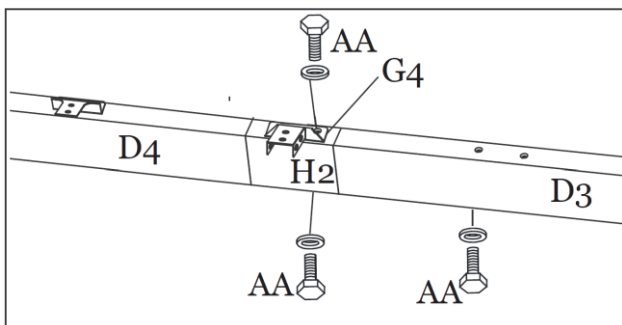

Figure 3-3
Step 3B: Insert the Lintel Connector (E) into the Long Lintel (D3). Attach the Top Lintel Bracket (G4) to the top of the lintel Cover (H2) using Bolts/Washers (AA). **Tighten all Bolts.** See Figure 3-3.